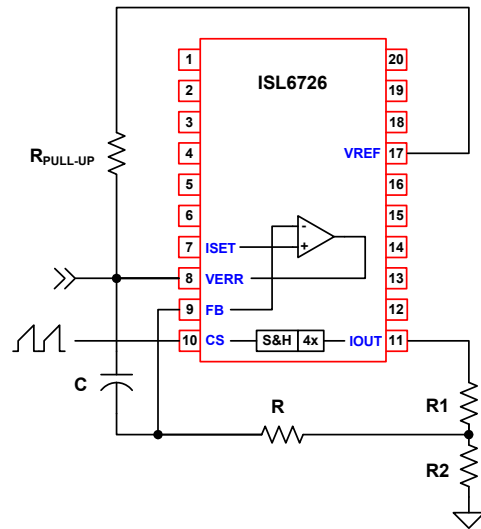

FIGURE 13. AVERAGE CURRENT CONFIGURATION
IOUT may be used with the available error amplifier (EA) of the ISL6726 as shown in Figure 13. The error amplifier is typically configured as an integrator. As shown in Figure 13, IOUT is attenuated by resistors R1 and R2 so that the average current limit threshold can be set independently of the peak current limit threshold. The integrator bandwidth is determined by R and C. The current error amplifier is similar to the voltage EA found in most PWM controllers, except it cannot source current. VERR requires an external pull-up resistor.